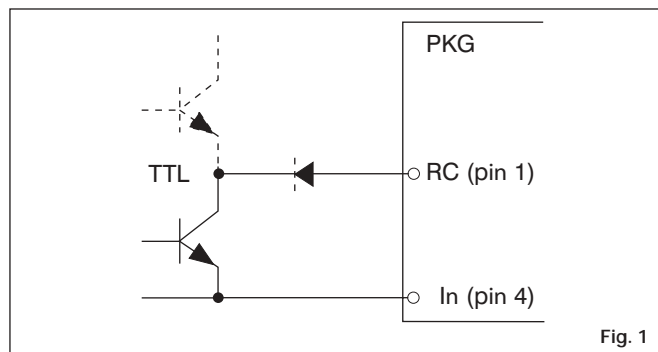

Fig. 1
Remote turn-on and turn-off can be realized by using the RC-pin. Normal operation is achieved if pin 1 is open (NC). If pin 1 is connected to pin 4 the PKG DC/DC converter turns off. To ensure safe turn-off the voltage difference between pin 1 and 4 shall be less than 0.6 V. RC is TTL open collector compatible (see fig. 1).